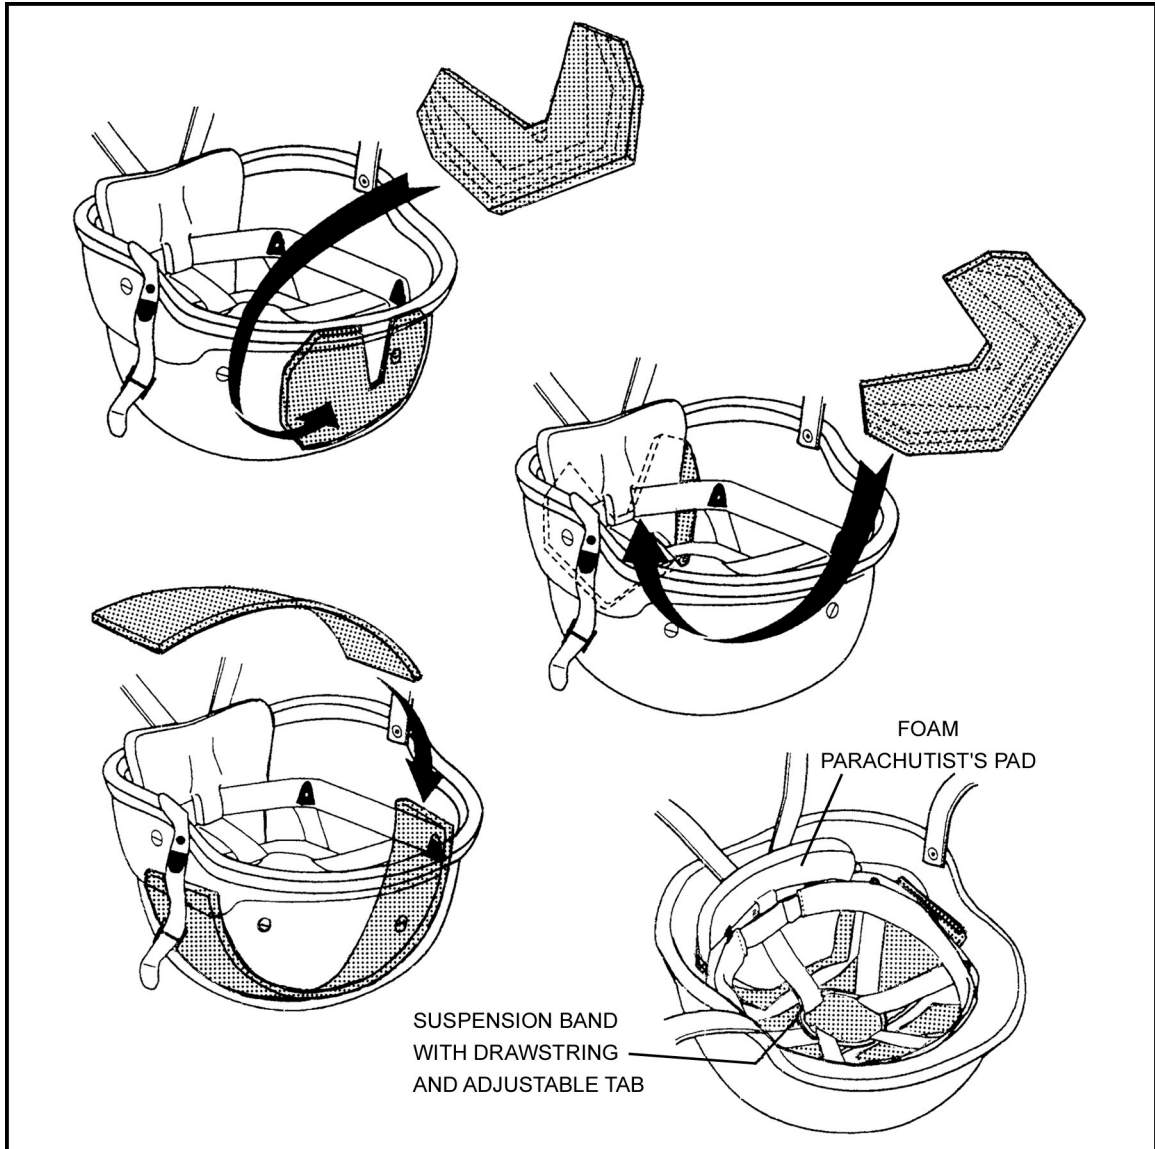

Figure 2-10. Installation of PIL.
- (3) Place the insert portions into the helmet so that the front and back pieces and the middle piece are located under both the foam impact pad and the suspension band with drawstring and adjustable tab (Figure 2-10).